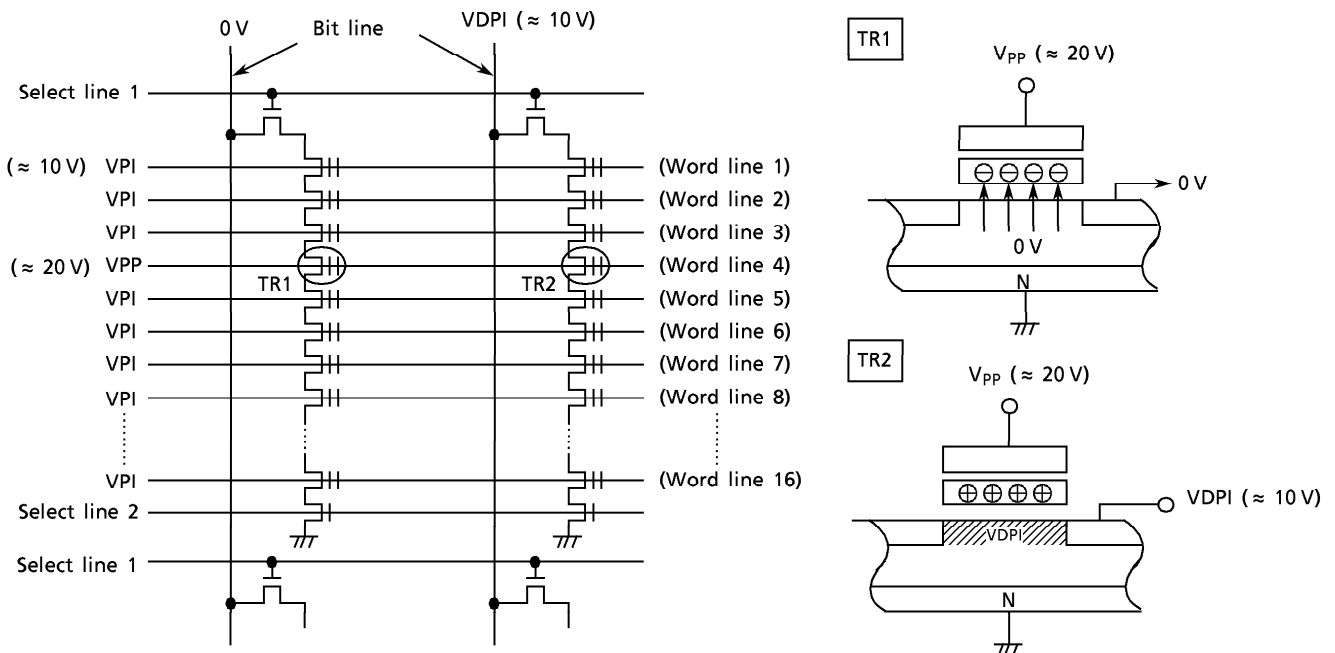

Figure 16. Program Device Physics
Figure 16 shows the NAND memory cell level details of the programming mechanism. The Program operation is used to write "0" data into an erased memory cell ("1" data cell) using a tunneling mechanism. An example Program operation to program "0" data into TR1 and "1" data into TR2 is as follows:
- (1) A high level is applied to Select line 1 and a low level is applied to Select line 2 so that the device is connected to the Bit line and disconnected from the ground line.
- (2) V_{pp} (≈ 20 V) is applied to the selected word line and an inhibit voltage of V_{PI} (≈ 10 V) is applied to the unselected word lines.
- (3) 0 volts is applied to the bit line tied to cell transistor TR1 and the inhibit voltage V_{DPI} (≈ 10 V) is applied to the bit line tied to TR2.
- (4) V_{pp} is applied between the control gate and the channel in TR1, as shown in Figure 16, which causes electrons to be injected from the channel to the floating gate by a tunneling mechanism.
- (5) The injected electrons are captured in the floating gate surrounded by an oxide layer and will remain, even after power is cut off, until they are removed by an Erase operation.
- (6) Although 20 volts is applied to the control gate of TR2, the voltage difference between the control gate and the channel is only 10 V because the voltage of the channel is 10 V. Therefore, tunneling does not take place. (i.e. the electron is not injected into the floating gate.)
- (7) Tunneling does not take place in the unselected pages because of the 10 V (V_{PI}) applied to the unselected word lines which makes the voltage difference between the control gate and channel only 10 volts.